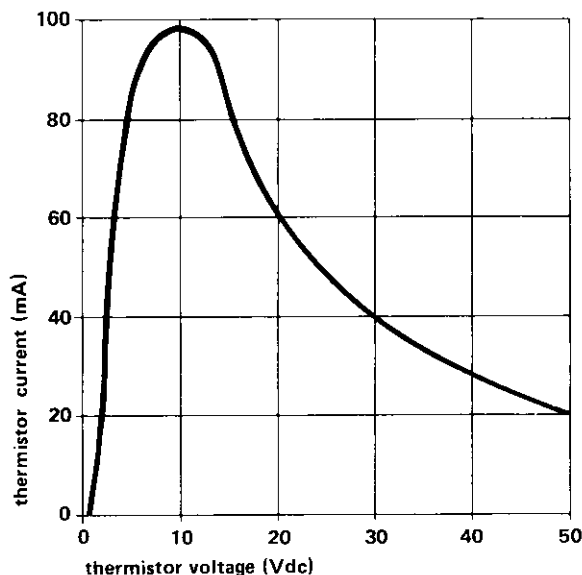

figure 5. Current-limiting curve
2.14 The 7503 provides current-limiting circuitry for both the station-side and switch-side loops. This prevents damage both to the 7503 and to external equipment, and it also enhances the module's ability to operate in short-loop situations. On the station side, maximum loop current supplied by the 7503 is normally limited to approximately 100mA by the module's nominal 400-ohm battery-feed resistance circuitry. On the switch side, maximum loop current (supplied either by the switch or by a switch-side tandem DLL) is also normally limited to approximately 100mA by 200-ohm resistance circuitry in the 7503. If, for any reason (e.g., a fault condition), the station-side or switch-side loop current exceeds 100mA, two thermistors on the station side and one thermistor on the switch side of the 7503 function automatically to limit loop current to approximately 100mA. Figure 5 shows a current-limiting curve that illustrates the foldback characteristics of each